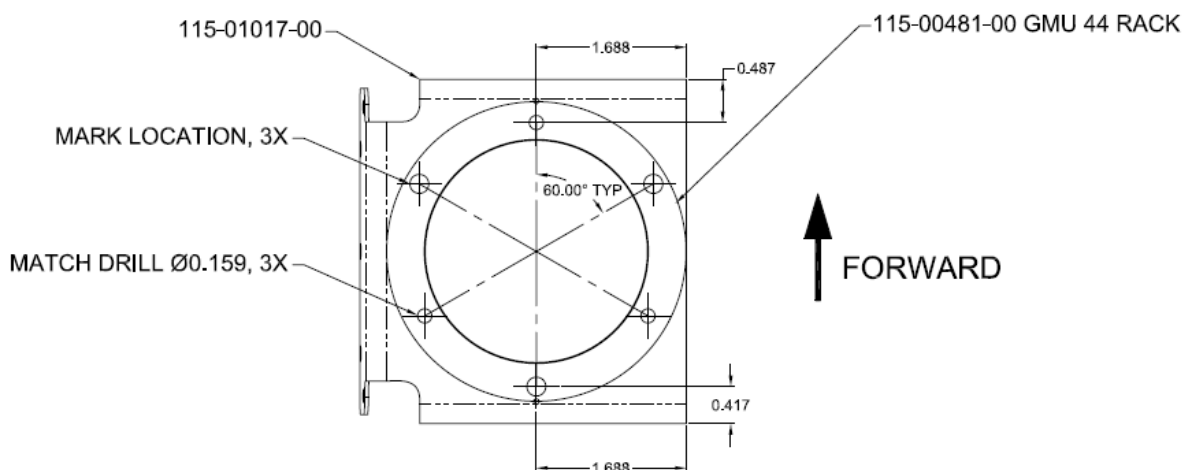

Figure A-8 GMU 22 Installation Rack (ES / ES-P)
1. Clamp the GMU 22 Installation Rack (Figure A-8) in place and match drill the GMU 22 Bracket through three countersunk mounting holes.